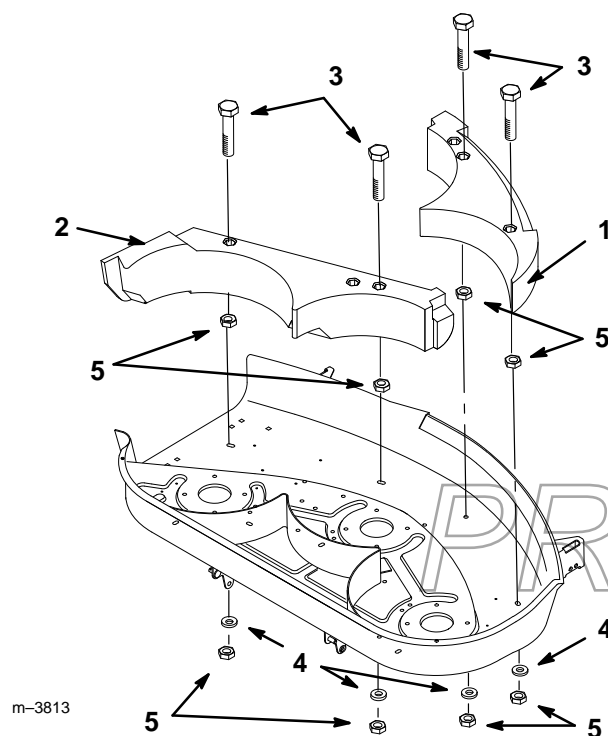

Figure 3
- Place the left side baffle and the right side baffle inside the cutting chamber so the extended lugs are interlocked. Secure them with (4) 5/16" locknuts and (4) lock washers (Fig. 3).